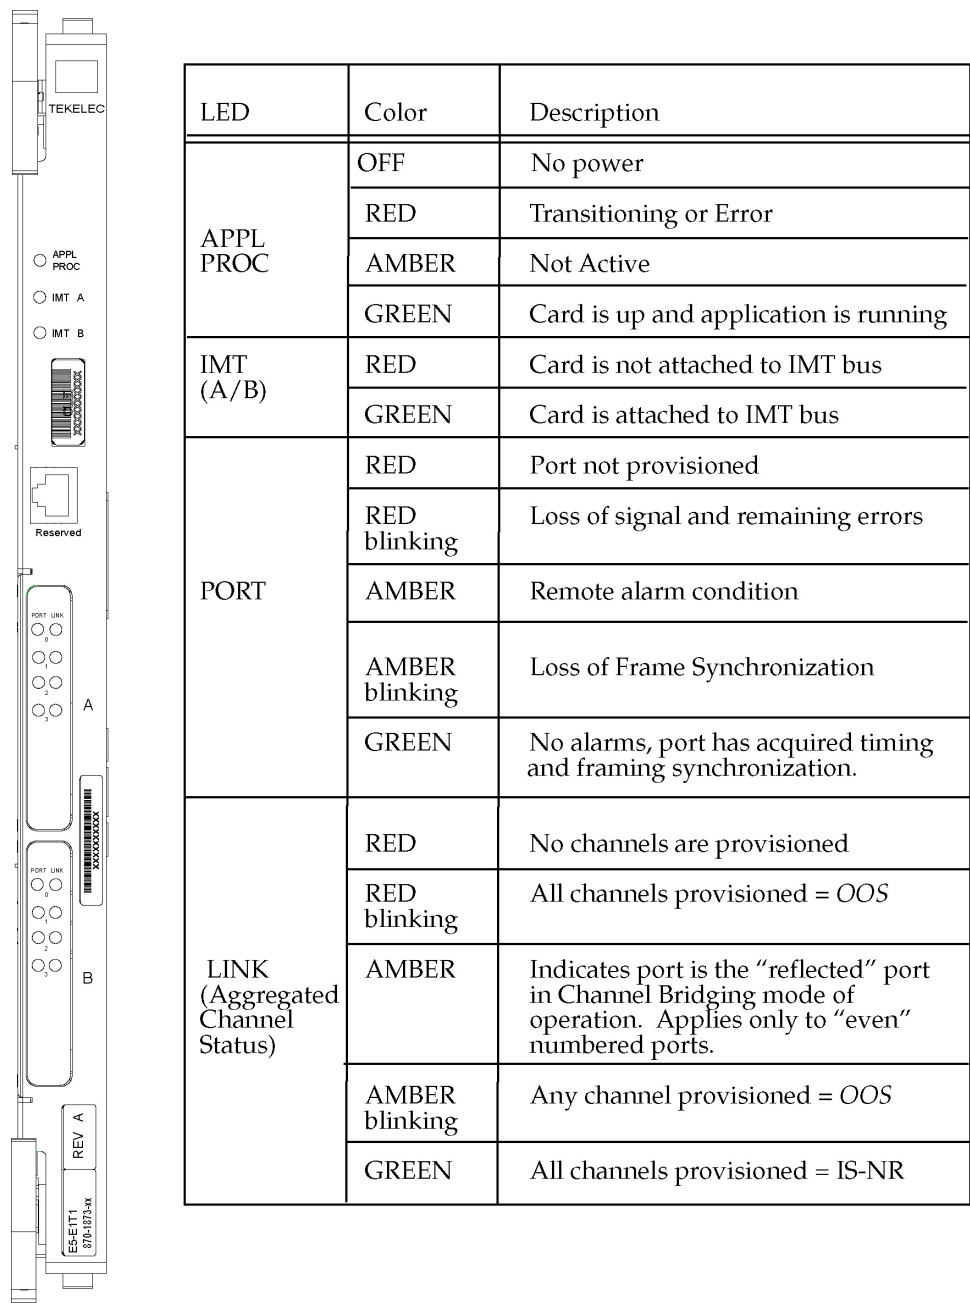

Figure 47: E5-E1T1
Three LEDs provide conventional EAGLE card indications of APPL Proc operation, and IMT A and IMT B operation. Up to sixteen (16) LEDs, two for each E1/T1 port, are used to indicate port and channel (signaling link) status. One LED per E1/T1 port indicates E1/T1 port Status and one LED per E1/T1 port indicates aggregated channel status. See Figure 47: E5-E1T1.